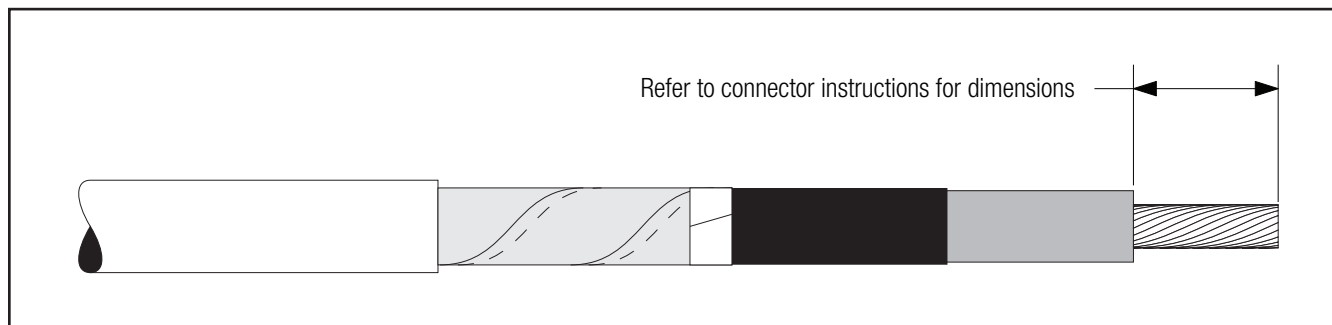

Figure 12
- 4.1** If using a 3M™ Shearbolt Connector QCI 2-250, refer to the instructions included with the connector for insulation cut-back dimension. Insulation removal length shall not exceed 2 1/2" (64 mm) from conductor end (Figure 12).